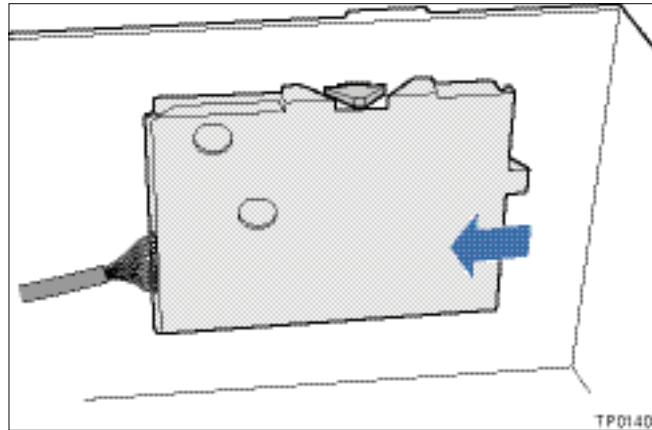

Figure 3. Engaging Clamshell Tabs with the Chassis Clips
3. Slide the clamshell toward the front of the system until the tabs engage with the clips in the chassis (see Figure 3).